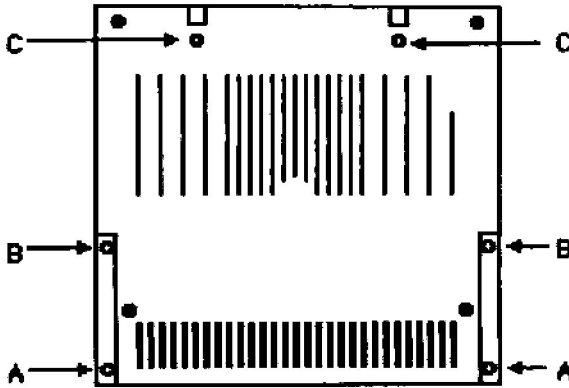

Figure 5: Apple Iic Case Bottom (Showing screws).
2. Turn the computer upside down and unscrew the two screws (marked 'A' in *Figure 5*) at the keyboard end corners.